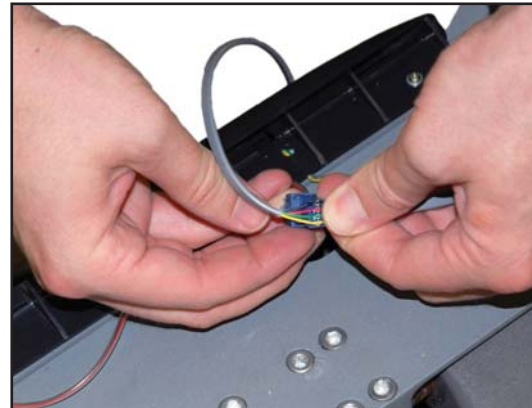

FIGURE 6.45
6. Lift the Table Harness Connector out of the hole in the Metal Plate. Press the tab of the Four-Pin Connector to disconnect the Elevation Pedals from the Table Harness. Refer to **Figure 6.45**.